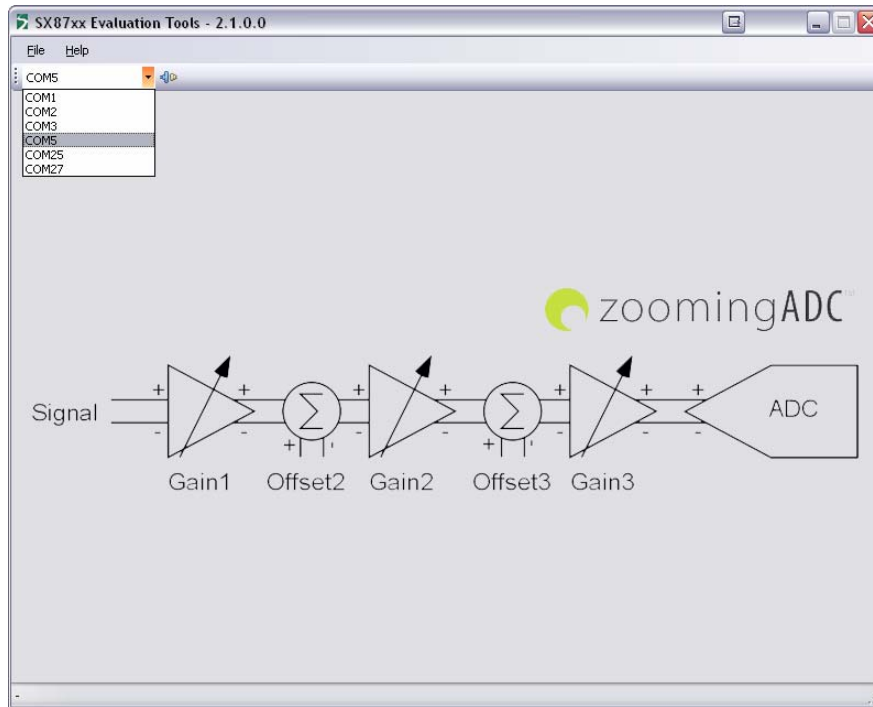

Figure 2 Serial COM port selection
- Click on the Serial COM port dropdown list as shown in Figure 2 and keep in mind the displayed Serial COM ports.
- Click on the Serial COM port dropdown list as shown in Figure 2